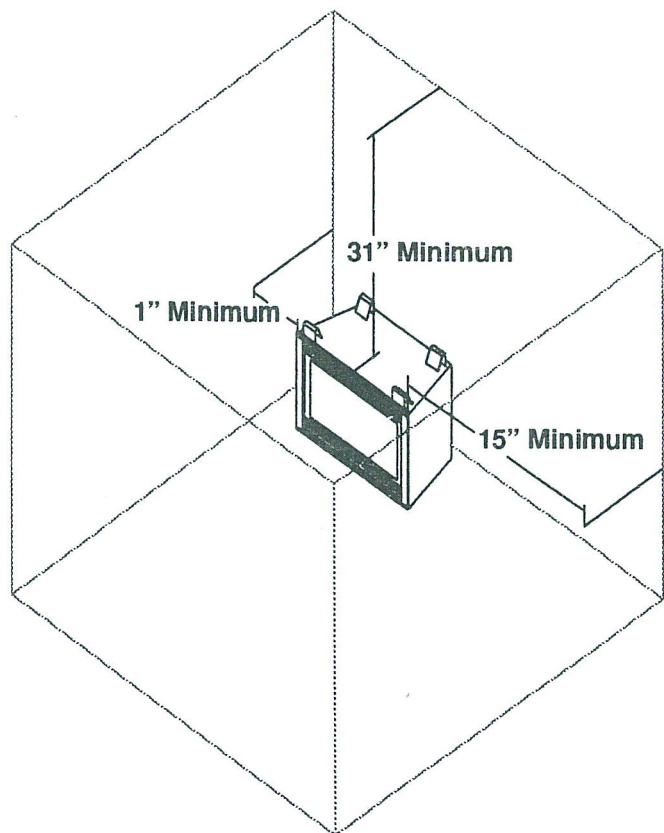

Figure 3: Wall & Ceiling Clearances
1. Ensure that minimum clearances shown in Figures 3 and 4 are maintained. Left and right clearances are determined when facing the front of the appliance.
SIDEWALL CLEARANCES: The clearance from the front edge of the appliance to any combustible wall should not be less than 1" on the left side and 15" on the right side, or not less than 1" on the right side and 15" on the left side. Refer to Figure 3.
CEILING CLEARANCE: The ceiling must be at least 31" from the top of the front of the fireplace (65.5" from the bottom of the appliance). Refer to Figure 3